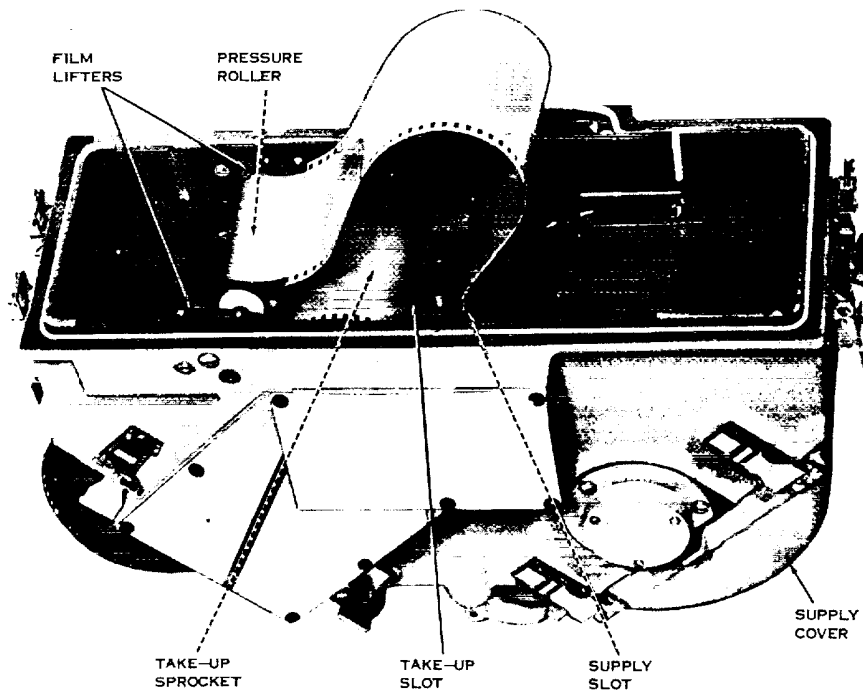

Figure 17. Installation of Film Keeper, Subdued Light Procedures (4).
e. Rest the film keeper in the magazine (fig. 17) so that its spring clips are located on the opposite side of magazine input gear.